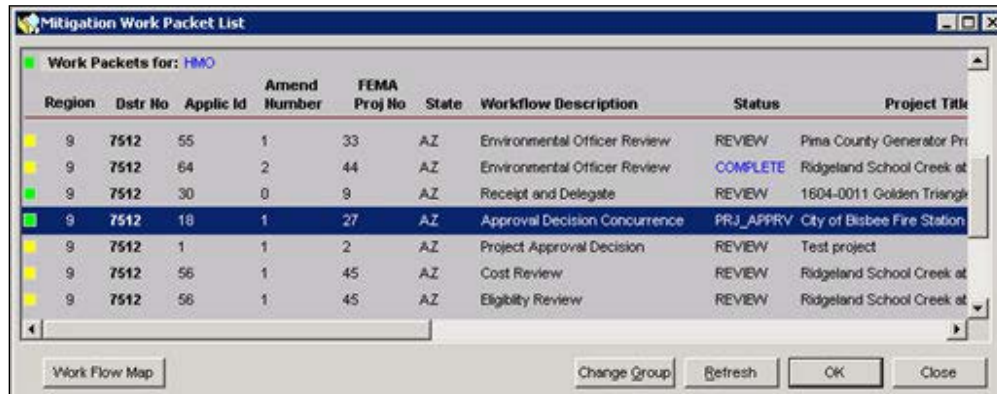

Figure 7-107: Mitigation Work Packet List
1. On the MITIGATION menu bar, click on Projects > Eligibility Determination > In Process. The Mitigation Work Packet List is displayed (Figure 7-107).